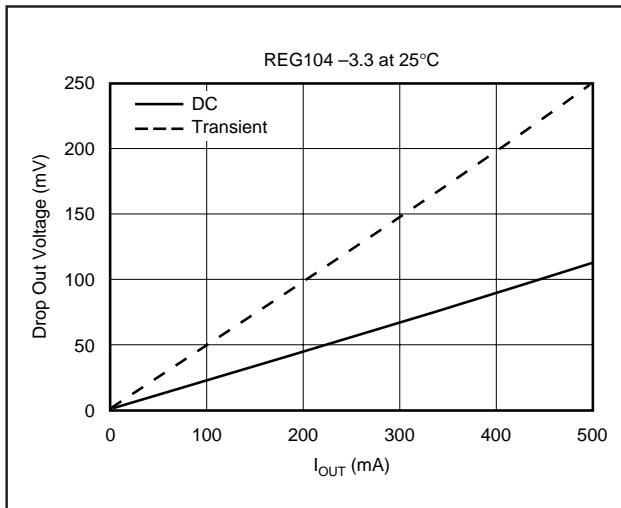

FIGURE 8. Transient and DC Dropout.
The REG104 uses an N-channel DMOS as the pass element. When the input voltage is within a few hundred millivolts of the output voltage, the DMOS device behaves like a resistor. Therefore, for low values of V_{IN} to V_{OUT} , the regulator's input-to-output resistance is the $R_{DS(ON)}$ of the DMOS pass element (typically 230mΩ). For static (DC) loads, the REG104 will typically maintain regulation down to V_{IN} to V_{OUT} voltage drop of 230mV at full rated output current. In Figure 8, the bottom line (DC dropout) shows the minimum V_{IN} to V_{OUT} voltage drop required to prevent dropout under DC load conditions.
For large step changes in load current, the REG104 requires a larger voltage drop across it to avoid degraded transient response. The boundary of this *transient dropout* region is shown as the top line in Figure 8. Values of V_{IN} to V_{OUT} voltage drop above this line insure normal transient response.